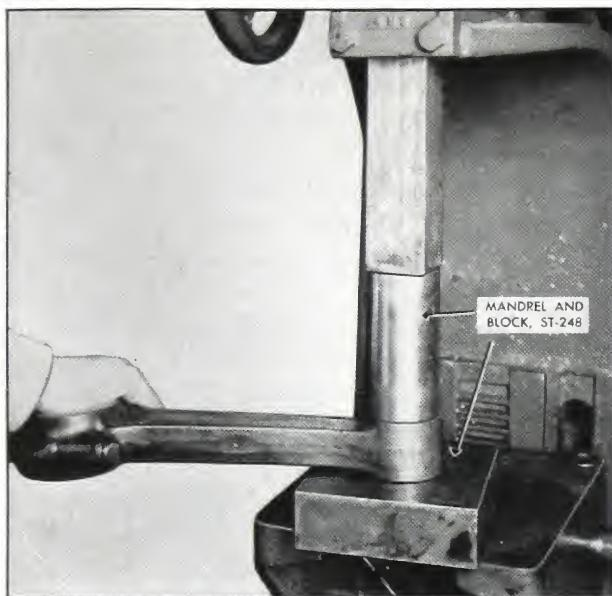

Fig. 2-36. Pressing in new bushing
1. Remove old piston pin bushing with arbor press and ST-248 mandrel and block, Fig. 2-36. Install cap and tighten nuts by the template method. Recheck the rod length on ST-227 checking fixture. If rod has been resized previously, it will be shorter than standard by .018" or more and can not be resized a second time.